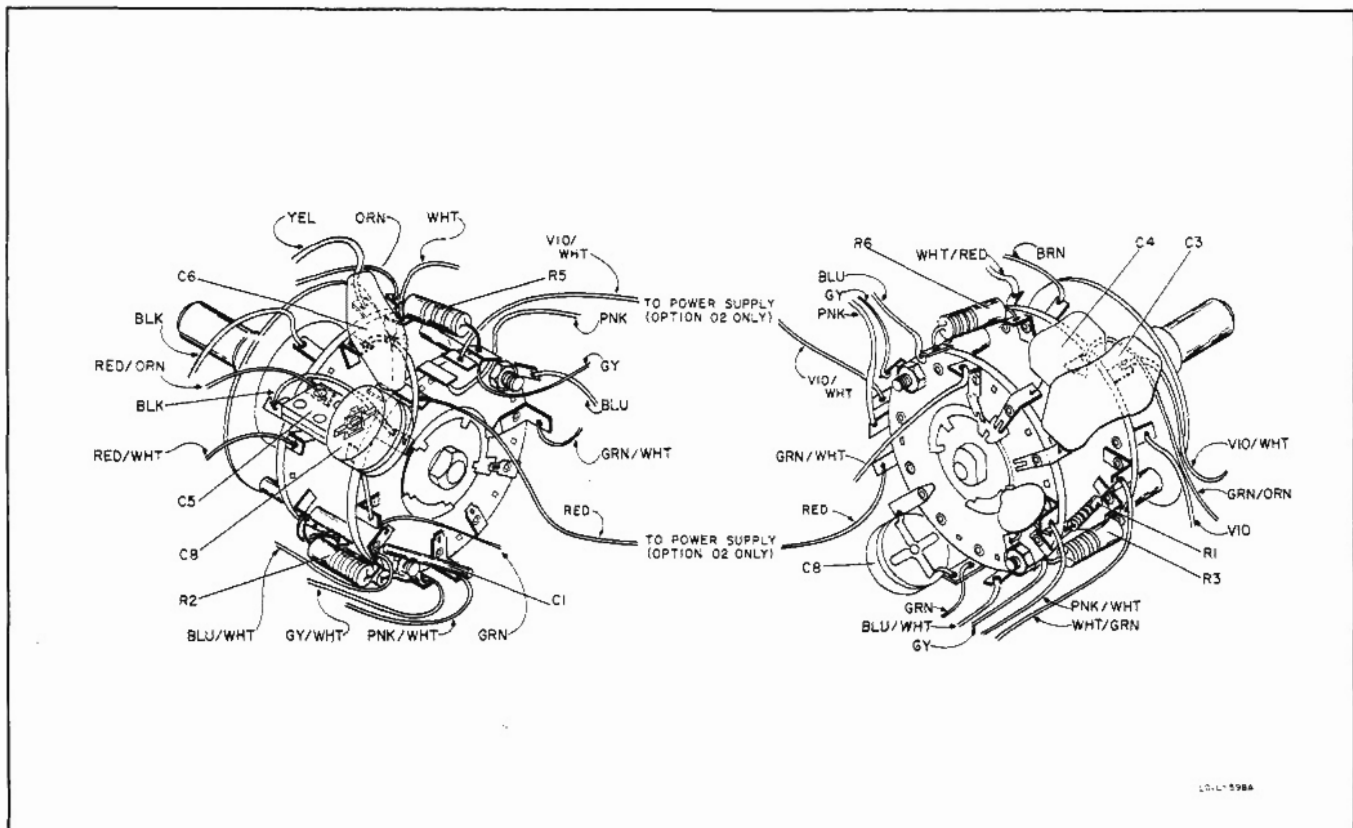

Figure 5-6. Range Switch Detail
- k. Set RANGE to X10K, FREQ. to 5 (50 kc), and adjust C8 (figure 5-6) to obtain a 50-kc output.
5-37. To aid in replacing the RANGE switch assembly [Ⓢ] Stock No. 204B-95D, refer to the exploded view, figure 5-4, and range switch detail, figure 5-6.
e. Solder leads to replacement switch using figure 5-6 as a guide for correct lead connections.